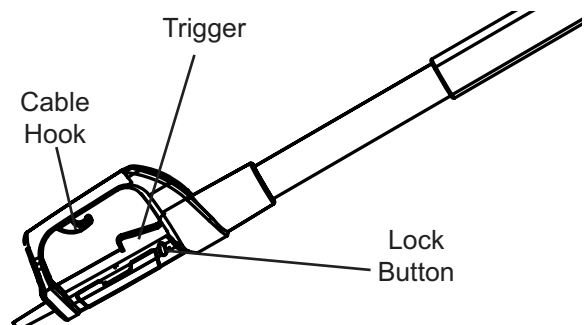

Figure 12
1. The Pole Saw is fitted with a lock button feature. To start Pole Saw, depress the Lock Button then fully press and hold the Trigger. The Lock Button can now be released. See Figure 12, right.